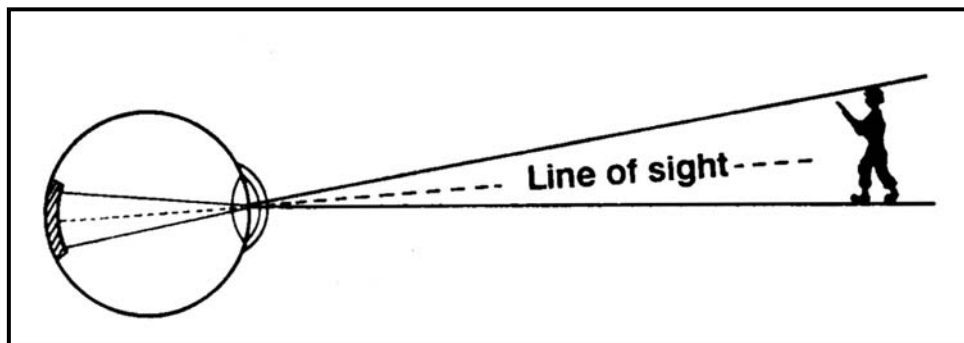

Figure 7-23. Daytime field of view using pinpoint focus.
b. **Off-Center Vision.** During the daytime when an individual looks at an object, he looks directly at it. However, if he did this at night he would only see the object for a few seconds. In order to see this object for any length of time, he must look 6 to 10 degrees from this object (Figures 7-23 and 7-24, page 7-26) while concentrating his attention on the object. This allows the light sensitive area of the eye, which can detect faint light sources or reflection, to be used.